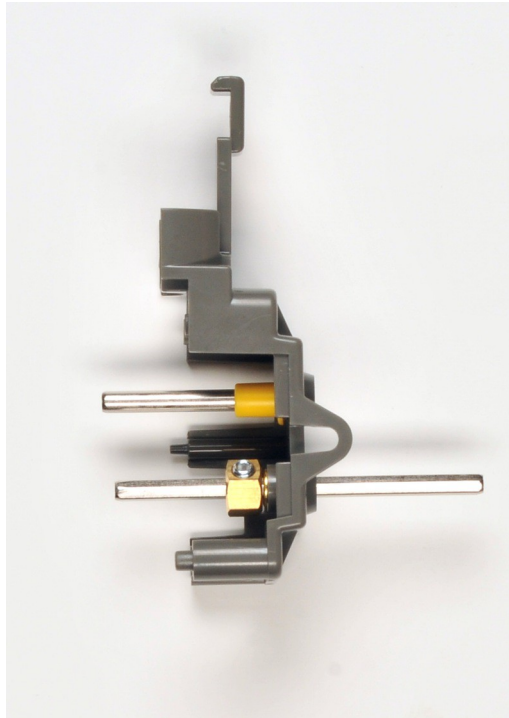

Figure 1.15
9. Insert the 3mm (shorter) end into the remaining eyelet on the gearbox housing, as shown in figure 1.15.